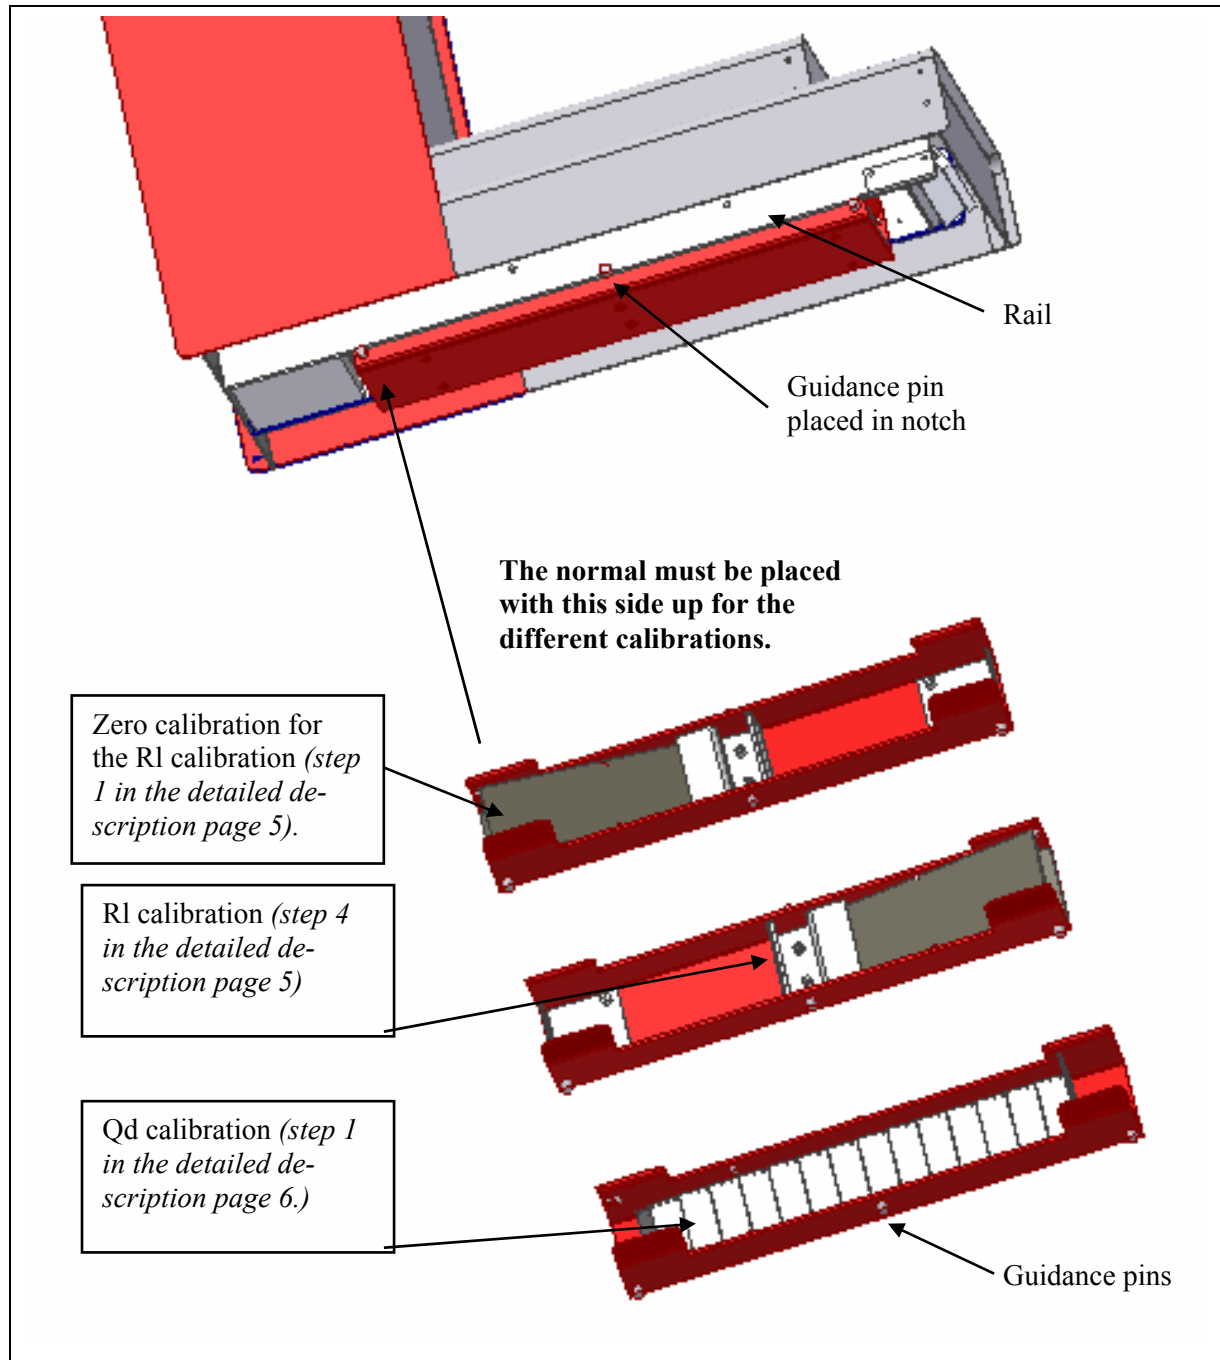

Figure 2. How to place the calibration normals.
RI calibration step 1 to 8 actually consists of two calibrations: a “zero calibration” and a “normal calibration”. The zero calibration is done on the calibrator light trap and the normal calibration on the ceramics. It is important to turn the RI calibration unit the right way during the calibration sequence. See figure 2 (page 9).
- Step 1 + 4: See figure 2 on how to place the calibration unit.
Calibration is done by placing the calibration unit underneath the instrument between the rails. The easiest way to place the unit is to tilt the instrument backwards, see picture page 6. The calibration units are fitted with guidance pins on the outside. The pins mounted in the middle of the longitudinal direction of the unit shall fit in the notch in the rails, see figure 2 page 9.
Step 1: The vertical black plate on the calibration unit shall face forward (see figure 2 page 9).